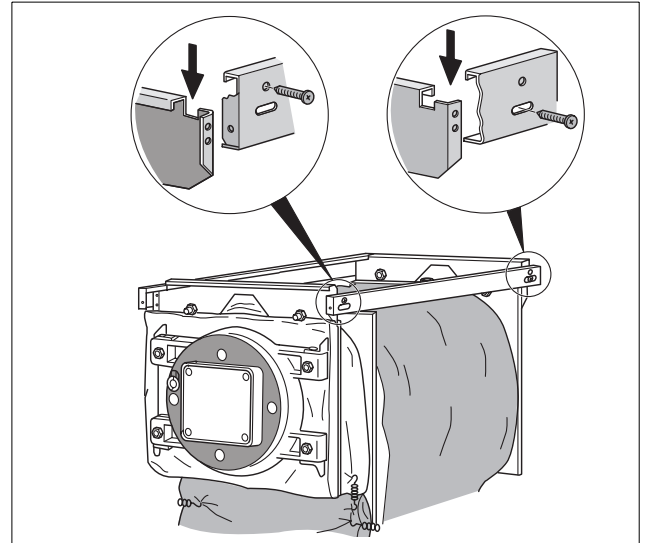

Fig. 8 Installation and securing of top side rails
- Install top side rails with the U profile in the knock-out of the front and rear cross bracket. Secure with a screw through the round hole in the front, and with a screw through the long slot in the back to the cross brackets (Fig. 8).